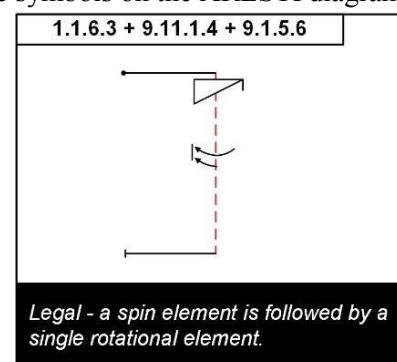

Figure 53
A spin and a roll combined on the same vertical downline will always be unlinked. They may be flown either in the same or opposite direction, as shown by the position of the tips of the symbols on the ARESTI diagram. The spin will always be the first element with a maximum of two (2) turns. It can be followed by a second rotational element like a roll or a snap roll also limited to a maximum of two (2) turns (Fig. 53).